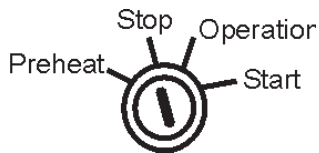

Figure 54. Off/Manual Auto Switch
4. Turn the starter switch key to ‘Stop’ position (Figure 54).